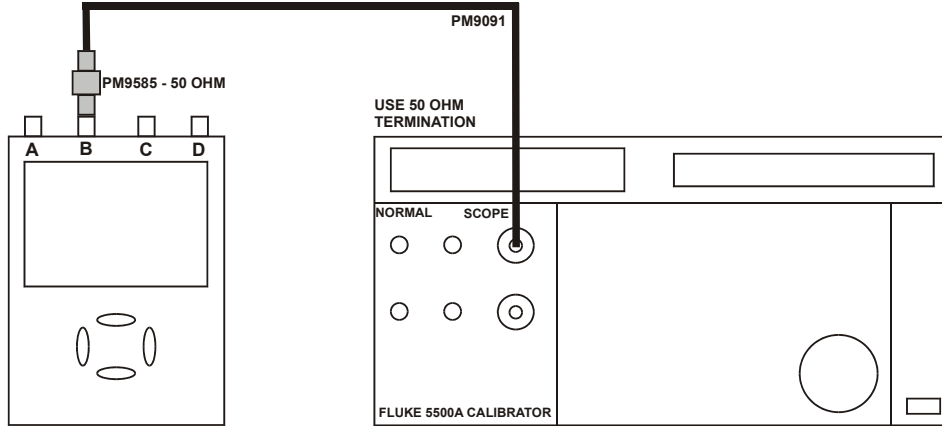

Figure 4-8. 5500A Scope Output to Test Tool Input B
1. Connect the Test Tool to the 5500A as shown in Figure 4-8.
1. Connect the Test Tool to the 5500A as for the previous test (see Figure 4-8).